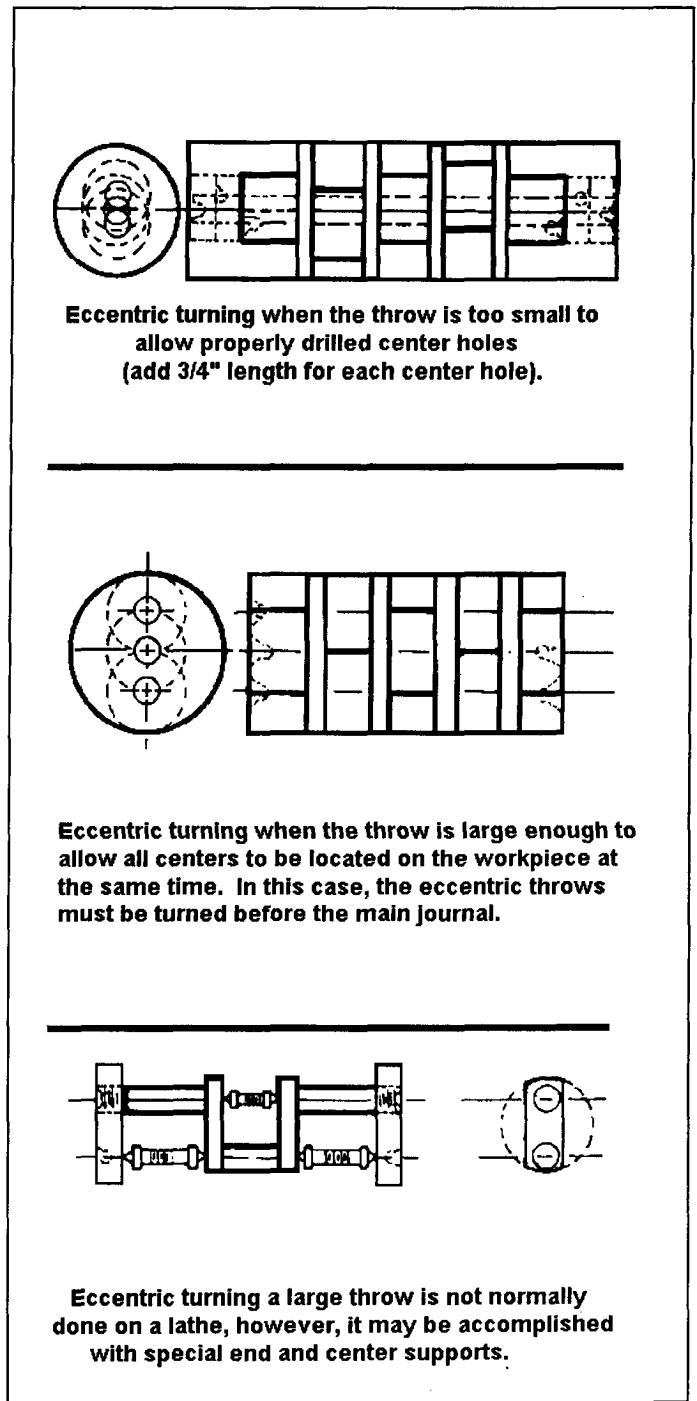

Figure 7-102. Eccentric turning.
- First determine the stock required by adding the throws plus  $1/8$  inch for machining (Figure 7-102).
the stock 3/4 inch oversized and just face both ends to clean up the saw cuts Lay out and center-drill the normal. center axis and turn down those diameters on the center axis with the work mounted between centers. Remove the work and remount into a chuck. Face both ends to the required length and center-drill the offset centers. Remount the work between these centers and machine the eccentric diameters to size. For eccentric work that has a limited distance between each center, this method is safer than trying to use a very shallow center-drilled hole to hold the work between centers (Figure 7-102).
If the lathe is to be used to turn a crank with a great throw, or a throw that is greater than normally machined on a lathe (Figure 7-102), special throw plates must be fabricated to hold the ends of the work while turning. The special throw plates will be used as support blocks to enable the offset center holes to be machined into the throw plates and allow for eccentric turning. eccentric turning, it is not recommended for normal lathe operations. Special crankshaft turning and grinding equipment is available for this type of machining.